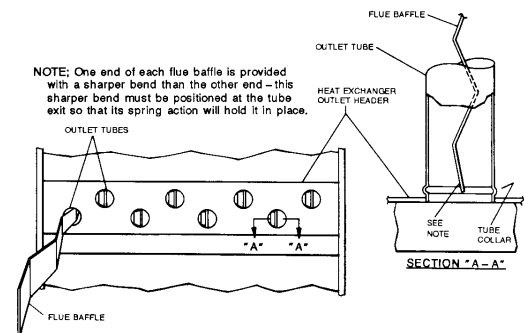

FIGURE 4: TYPICAL FLUE BAFFLE INSTALLATION
5. On the inside of the flue collector box, remove the flue baffles from the tube interiors. Note the last bend of the baffle fits tightly against the tube forcing the end of the baffle to lock into the tube collar. This collar is formed when the tube is expanded into the end sheet. To remove, move the end of the baffle toward the center of the tube releasing the end of the baffle from the tube collar, then pull straight out of the tube. Refer to Figure 4.